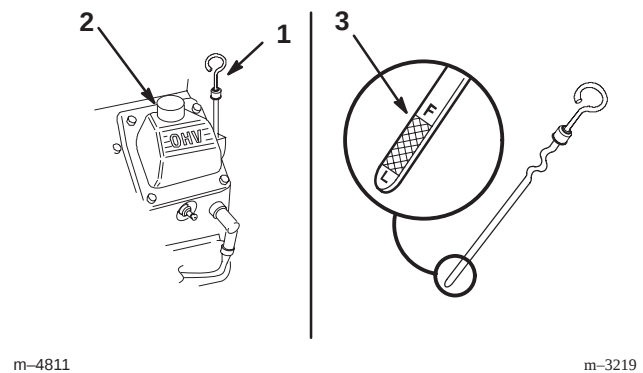

Figure 36
2. Clean around the oil dipstick (Fig. 36) so dirt cannot fall into the filler hole and damage the engine.
3. Pull the oil dipstick out and wipe the metal end clean (Fig. 36).
4. Slide the oil dipstick fully into the filler tube. Pull the dipstick out and look at the metal end (Fig. 36). If oil level is low, slowly pour only enough oil into the filler tube to raise the level to the full mark.